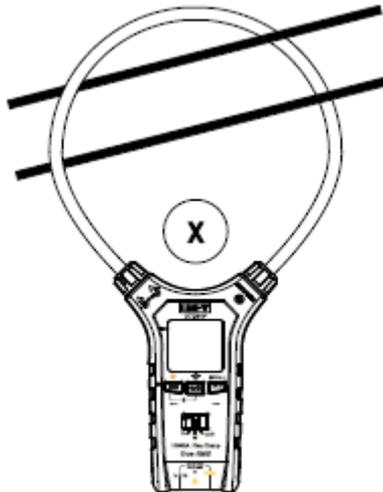

Figure 4.3
- 3) The Meter can only measure one current conductor at a time. If two or more current conductors are measured simultaneously, the reading will be incorrect. (See Figure 4.3)